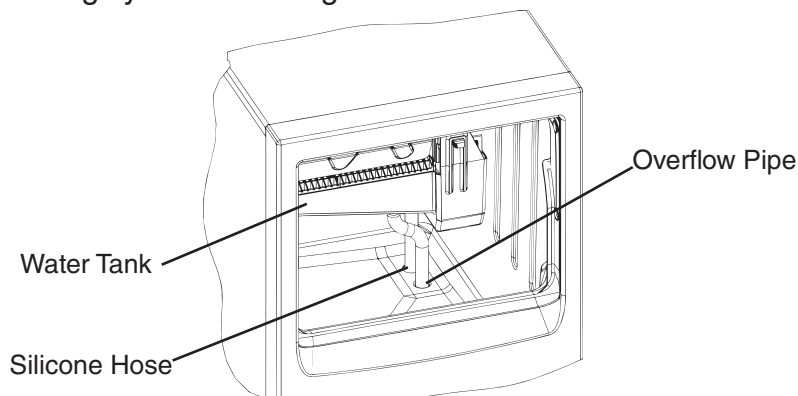

Fig. 9
- 2) Disconnect the silicone hose to drain the water. See Fig. 9.